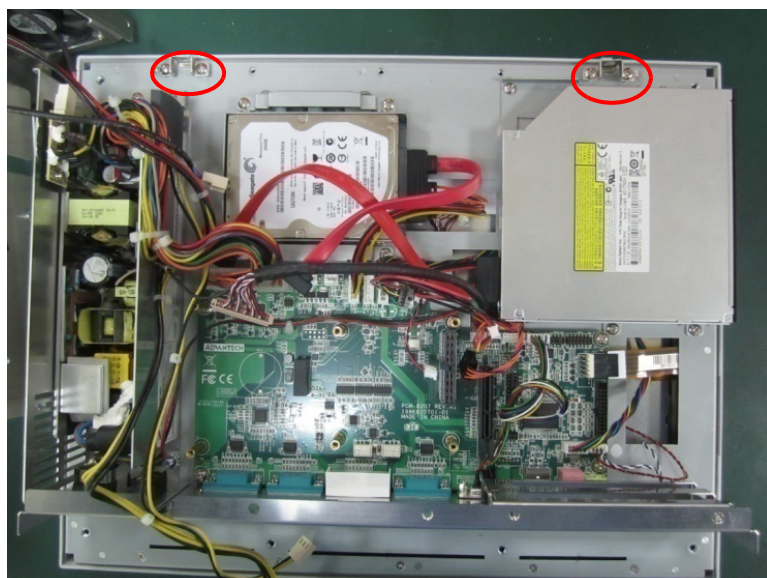

Figure 2.27
1. First remove the wireless LAN card antenna bracket. (See Fig 2.27)